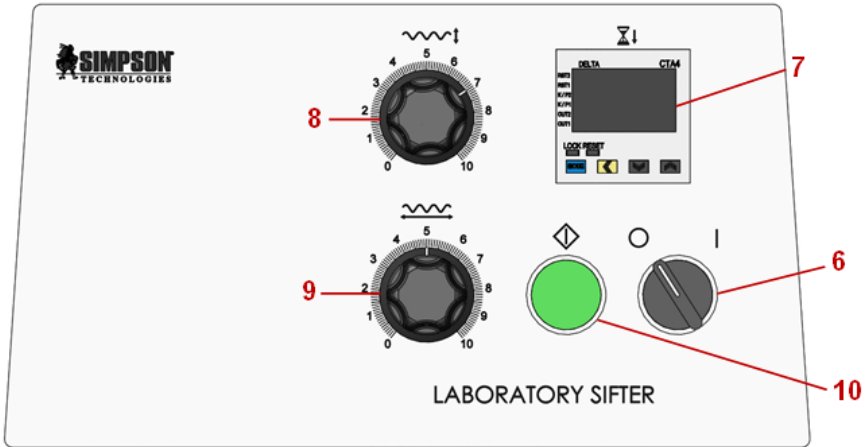

Figure 7.2: Controls
4. Initially set the voltage rheostat (Figure 7.2, Item 8) to position 4.
Typically, this occurs near 4 on the frequency control dial (Figure 7.2, Item 9).
If a loud banging noise is heard, lower the adjustment on the rheostat (Figure 7.2, Item 8) to the point where the banging noise stops.